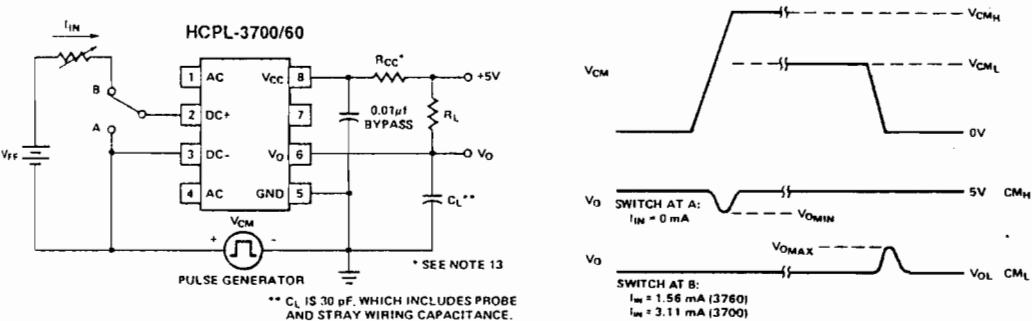

Figure 10. Test Circuit for Common Mode Transient Immunity and Typical Waveforms.
12. Common mode transient immunity in Logic High level is the maximum tolerable (positive)  $dV_{CMHI}$  on the leading edge of the common mode pulse,  $V_{CM}$ , to insure that the output will remain in a Logic High state (i.e.,  $V_O > 2.0\text{ V}$ ). Common mode transient immunity in Logic Low level is the maximum tolerable (negative)  $dV_{CMHI}$  on the trailing edge of the common mode pulse signal,  $V_{CM}$ , to insure that the output will remain in a Logic Low state (i.e.,  $V_O < 0.8\text{ V}$ ). See Figure 10.